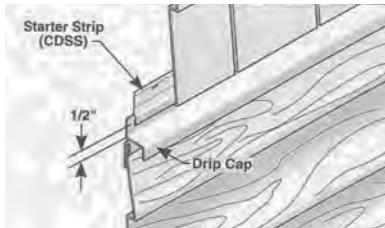

Fig.7
- Starter Strip with Drip Cap (see Figure 7).